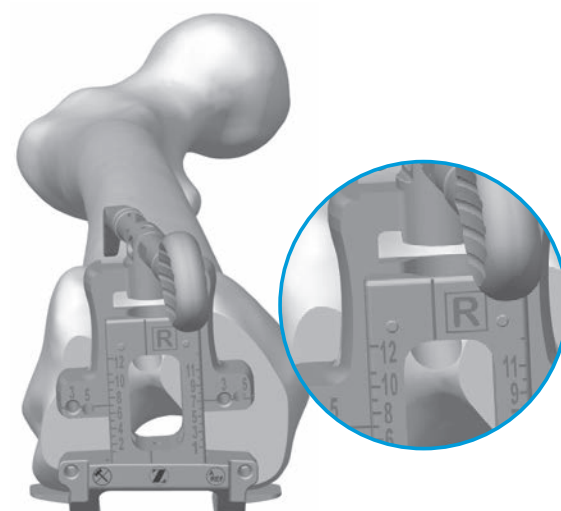

Fig. 117
- If the 3° external rotation holes are to be used to set external rotation, the etched line on the Anterior Referencing Sizer should be positioned so it is in line with Whiteside’s line (Fig. 117) to optimize the M/L position of the drill holes for subsequent Anterior Referencing 4-in-1 Cut Guide placement.
- Slightly extend the knee and retract soft tissues to expose the anterior femoral cortex. Clear any soft tissue from the anterior cortex. Ensure that the leg is in less than 90° of flexion (70°-80°). This will decrease the tension of the patellar tendon to facilitate placement of the Anterior Referencing Sizer boom. The position of the Anterior Referencing Sizer boom tip approximates the proximal position of the anterior flange of the femoral component. The Anterior Referencing Sizer boom can be rotated to facilitate insertion under the soft tissue envelope. A palpable indication as well as a vertical orientation of the end of the Anterior Referencing Sizer boom (Fig. 117) ensures that the Anterior Referencing Sizer boom is rotated to the correct position.